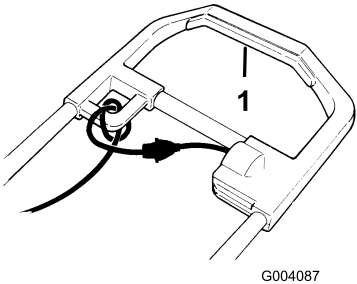

Figure 8
1. To start the rotor, squeeze the control bar (Figure 8).